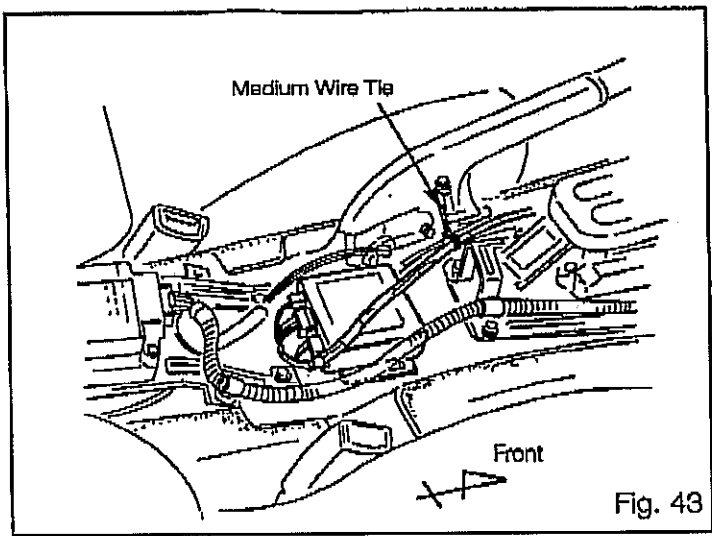

Fig. 43
- (4) Secure the RS3000 harness to the vehicle's wire harness with one medium wire tie as shown. Fig 43